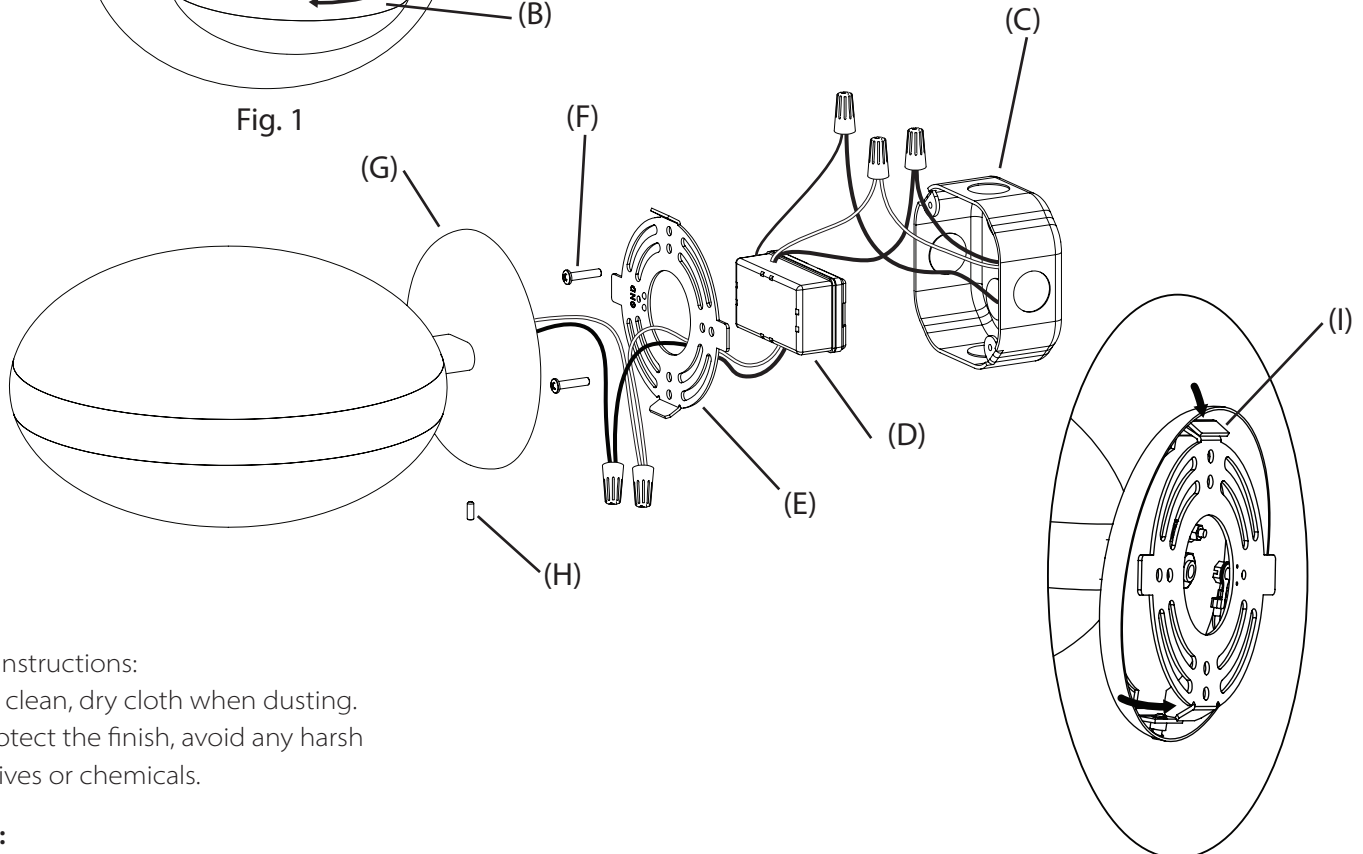

Fig. 2
5. Hook the tab (I) inside the top edge of the canopy (G) over the top flange of the mounting plate (Fig. 2), align the bottom edge of the canopy over the bottom flange of the mounting plate, and secure by tightening the set screw (H) using the included hex key.
6. Restore power to the outlet box (C).